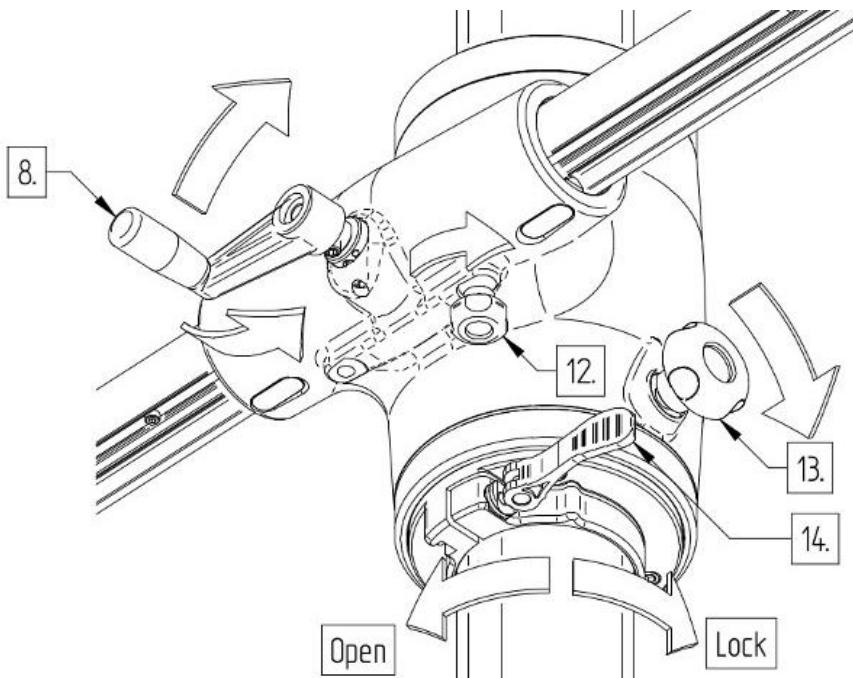

Figure 4. Operating the MBX-1
**Important note!**: Before placing the column in vertical position make sure you put tension on the cable by moving the sliding piece and lock the sliding pieces movement by using the clamp lever ([14.] figure 4).